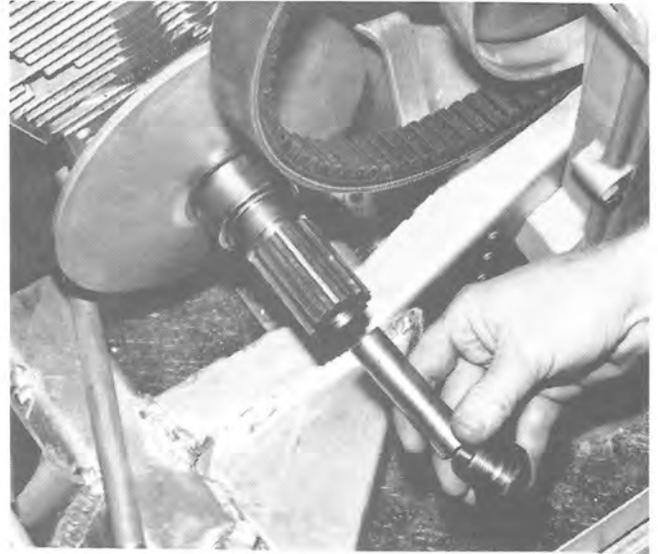

FIG. 4-7
6. If necessary to remove stationary sheave, insert plug (2 13/16" long x 3/4" diameter) in stationary center hole and re-insert bell retainer bolt. Tightening bell bolt will force stationary off crankshaft. (See Figure 4-7.)